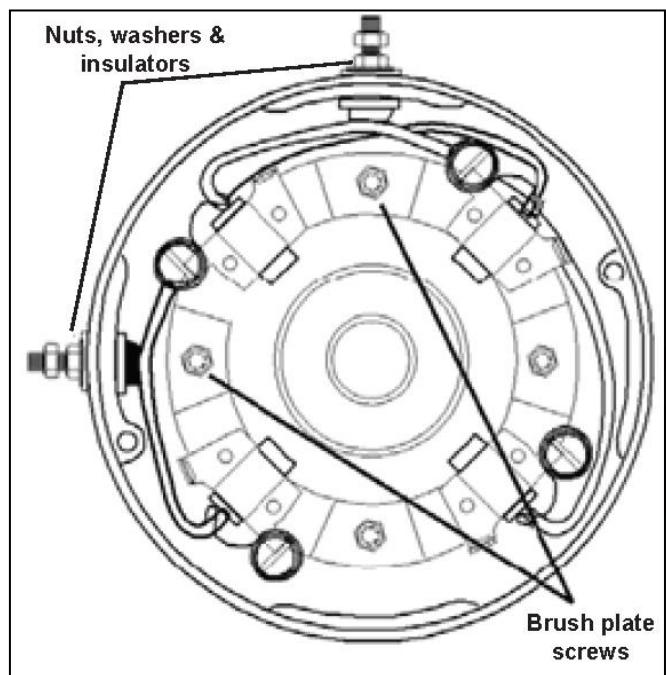
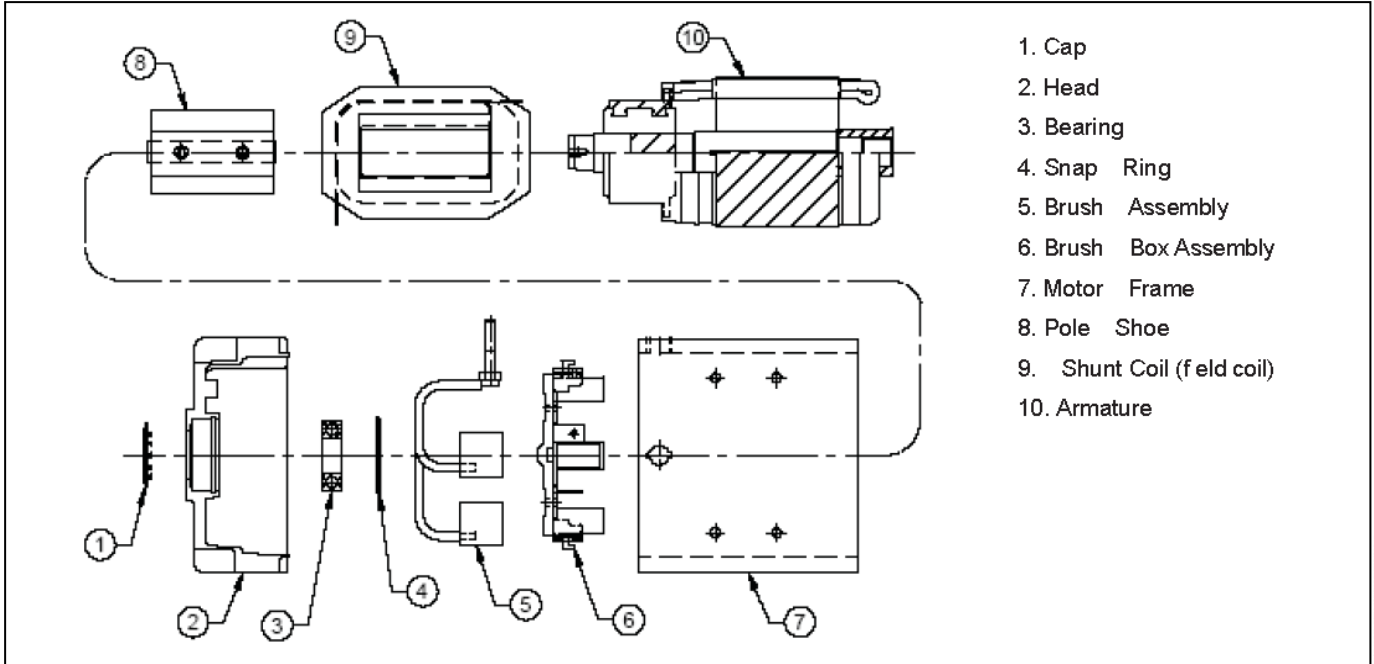
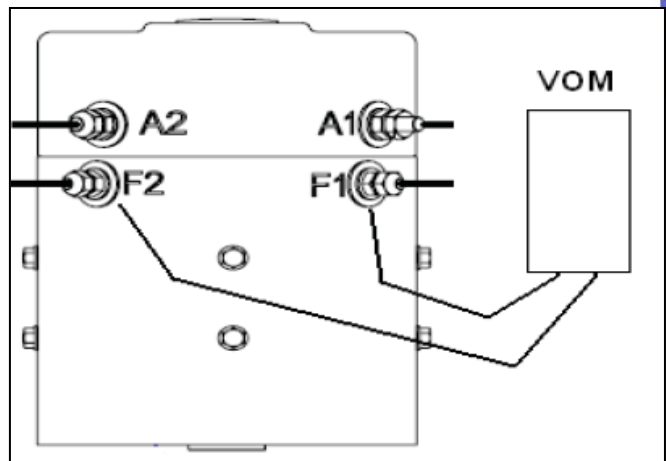

Figure 10-7
Figure 10-9
Figure 10-14
7. Remove 4 brush plate screws (Figure 10-7). Push brush terminal studs through, into the center of the head as the brush box, brushes and terminal assemblies are removed. (See exploded view Figure 10-9).
Brushes should be inspected for uneven wear and signs of overheating, such as discolored brush leads and brush springs. Check brush box for physical damage. Make sure brush holders are not loose on the brush box assembly. See Figure 10-9.
NOTICE: Do not remove the field coils (9 , Figure 10-9), from the motor frame unless it is absolutely necessary for repair. Removal and re-installation could shorten field coil life.
There should be no continuity between the frame of the motor and field coil (Figure 10-9). Set the volt ohm meter (VOM) to measure Ohms. See Figure 10-14.